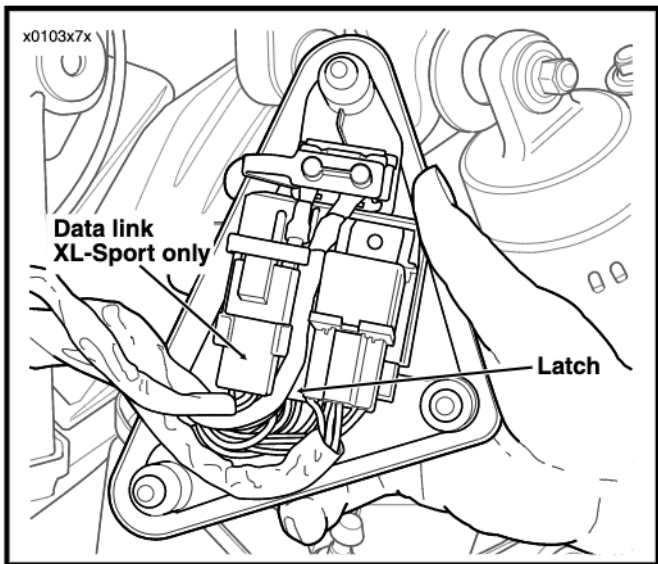

Figure 53. XL Side cover (1200S shown)
2. See Figure 53 and 54. Gently pull left side cover from frame (no tools required). Lift latch on fuse block holder to remove fuse block.